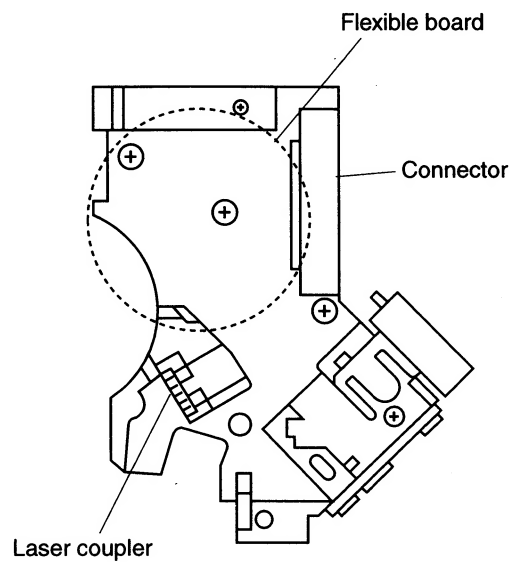

Fig. 7 KHS-180A (RP)
- 3) In handling the KHS-180A (RP), do not touch inhibited parts shown in Fig. 7, but grip the slide base bearing and U-shaped guide.